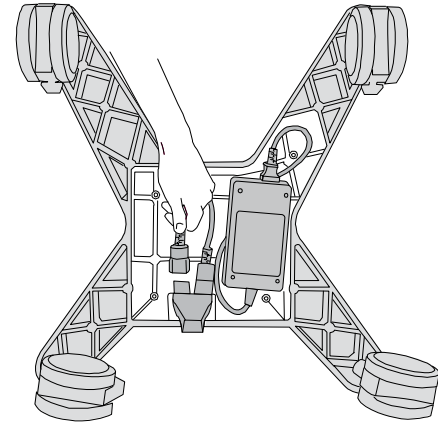

Figure 4 Connect AC power cord.
- 5 While keeping the power supply and Y-splitter in place, connect the AC power cord. See Figure 4.